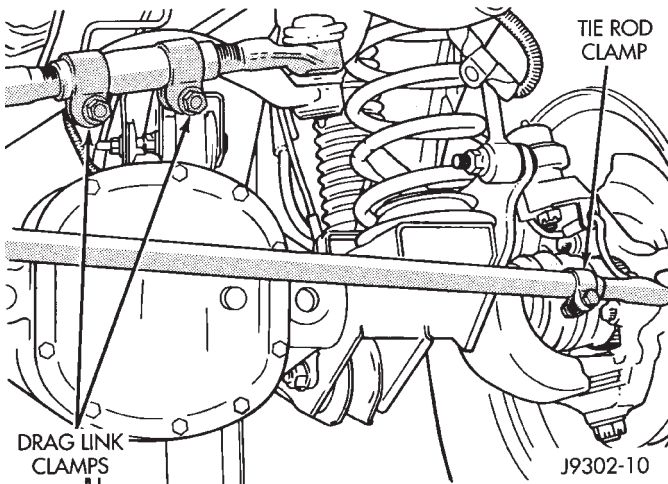

Fig. 3 Tie Rod/Drag Link Clamp Bolt
- (1) If necessary, install the tie rod ends in the tube. Position the tie rod clamp (Fig. 3) and tighten to:
- (2) Install the tie rod on the drag link and steering knuckle. Install the retaining nuts.
- (3) Tighten the ball stud nut on the steering knuckle to 47 N·m (35 ft. lbs.). Tighten the ball stud nut to drag link to 75 N·m (55 ft. lbs.) torque. Install new cotter pins and bend end 60°.
- (1) Install the drag link adjustment sleeve and tie rod end. Position clamp bolts (Fig. 3).
- (2) Position the drag link at the steering linkage. Install the drag link to the steering knuckle nut. Do the same for the tie rod and pitman arm.
- (3) Tighten the nut at the steering knuckle to 47 N·m (35 ft. lbs.). Tighten the pitman nut to 81 N·m (60 ft. lbs.) and tie rod ball stud nut to 47 N·m (35 ft. lbs.). Install new cotter pins and bend end 60°.